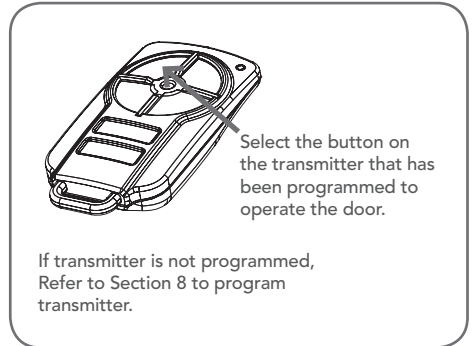

Fig. 7.1
- Press the transmitter to open the door. (Fig 7.1)
- Press the transmitter to close the door (Fig. 7.1).